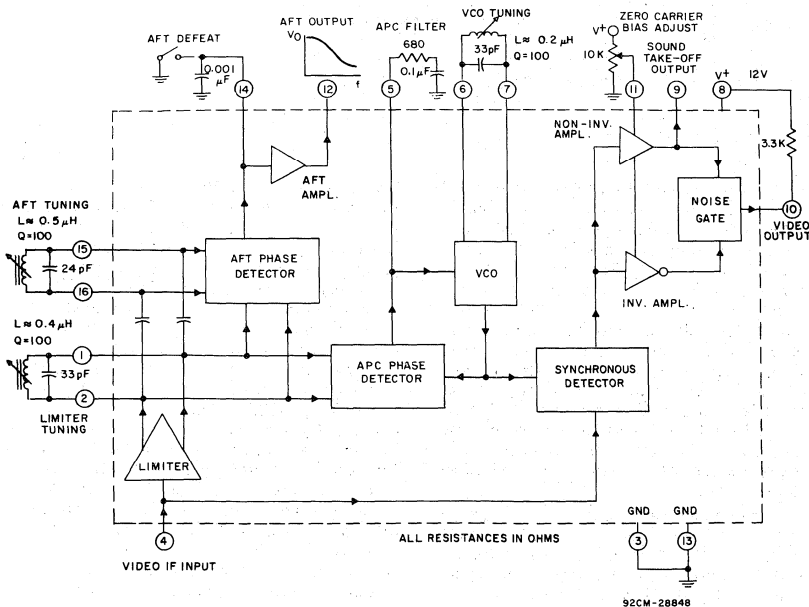

Fig. 1 - Block diagram of the CA3136E in a typical circuit application.
Fig. 1 shows a block diagram of the CA3136E in a typical circuit indicating the internal functions as well as the external circuitry and signals. A 45.75-MHz, 100-mVrms (50-ohm) signal is applied to the VIDEO IF INPUT (Terminal 4). While monitoring the VIDEO OUTPUT (Terminal 10), make the following adjustments in the indicated sequence; (1) adjust the VCO TUNING coil for a dc signal (lock). (2) Adjust the LIMITER TUNING coil for a minimum dc voltage on Terminal 10. (3) Adjust the VCO TUNING coil for 5.2 Vdc on Terminal 5 (with 12 volt supply on Terminal 8). (4) Close the AFT DEFEAT switch and note the dc voltage at the AFT OUTPUT (Terminal 12). (5) Return the AFT DEFEAT switch to its open position, and adjust the AFT TUNING coil for the same dc voltage noted when the AFT DEFEAT switch was closed. (6) Remove the rf input and adjust the ZERO CARRIER BIAS potentiometer for 7 volts dc on the VIDEO OUTPUT (Terminal 10). This final adjustment completes the alignment procedure.